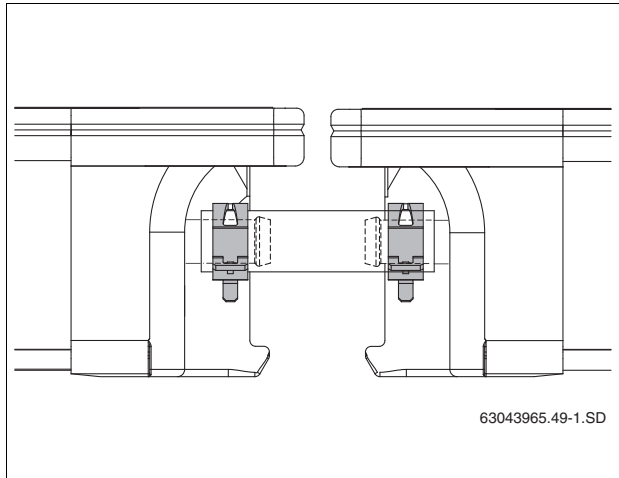

Fig. 44 Solar hose with secured hose clamps
- ▶ Secure every solar hose to the collector connection using a hose clamps (Fig. 44).